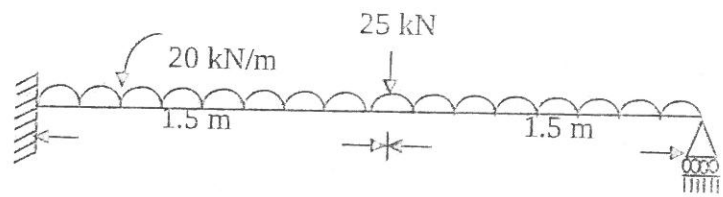

Fig. 1
2. Analyse the propped cantilever beam loaded as shown in the Fig. 1. Draw the Shear force and bending moment diagrams.